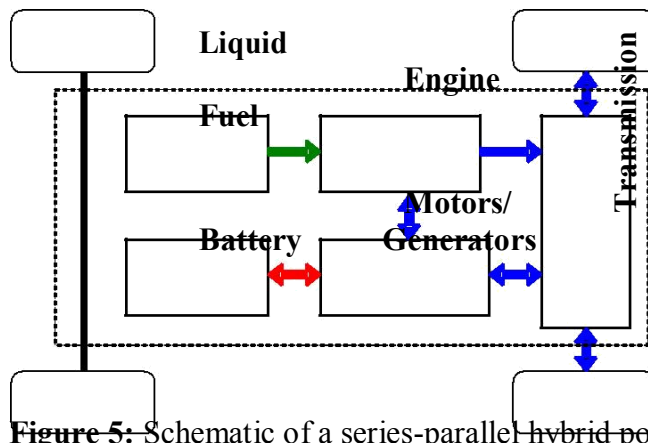

**Figure 4:** Schematic of a parallel hybrid powertrain
These two characteristic curves are shown in Figure 4. In **Figure 4** the following nomenclature is used:
• **Figure 4:** Characteristic curves of an internal combustion engine
In a Parallel Hybrid, there are two parallel paths to power the wheels of the vehicle: an engine path and an electrical path, as shown in figure 4. The transmission couples the motor/generator and the engine, allowing either, or both, to power the wheels. Control of a Parallel Hybrid is much more complex than for a Series Hybrid because of the need to efficiently couple the motor/generator and engine in a way that maintains driveability and performance.